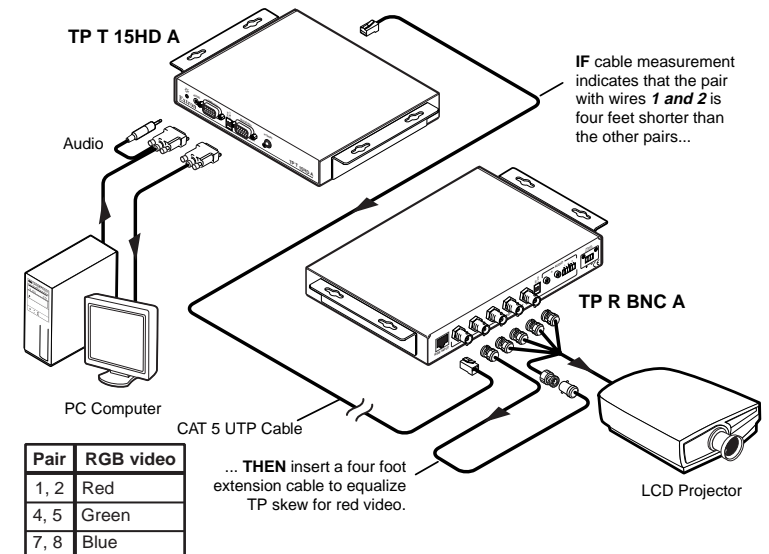

Figure 2-11 — Pair skew equalization
**TP R 15HD A** — Wire the external 15V power supply into this 2-pole captive screw connector (figure 2-11) and plug the connector into the receiver. The power supply is included with the unit.
UTP cable test equipment measures and reports wire pair length. The report on the various pair lengths can be used in equalizing pair skew. The nominal velocity of propagation (NVP — the speed at which the signal travels on the transmission line, measured as a percentage of the speed of light) of TP cable is very close to that of conventional coaxial cable. The similarity in NVP means that an additional length of coax equal to the length of pair skew, placed on the receiver's output, equalizes the effects of pair skew (figure 2-11).